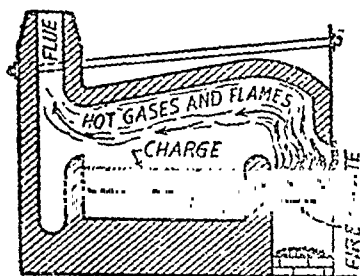

Fig. 58'3—Reverberatory furnace used for the manufacture of wrought iron.
7. Manufacture of Wrought Iron.—It is the purest form of iron and is prepared by heating cast iron in a reverberatory furnace lined with iron oxide (Fig. 58'3). The hot gases and flames are deflected by the low roof down on the charge placed in the bed of the reverberatory furnace. The carbon present in the cast iron is oxidised by the iron oxide lining and the other impurities either unite with the basic lining or are slagged off. The slag is removed by hammering the plastic iron gathered in balls on the ends of iron rods used for stirring or *puddling* the molten metal.